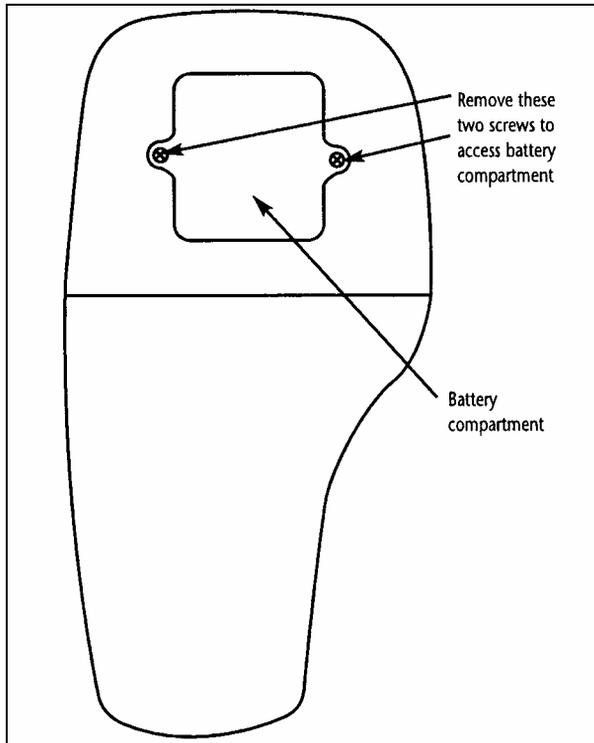

Figure 3 - Back panel of meter showing meter compartment
1. Use a Philips screwdriver to remove the two screws holding the battery cover. See Figure 3 below.